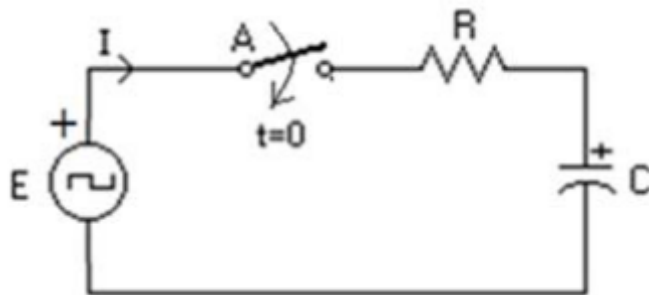

Figure 2.
- a. Then, transform the circuit to the configuration shown in Figure 2 with the same voltage value.